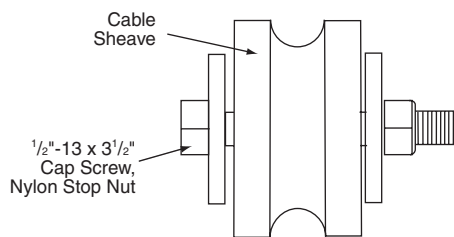

Figure 2
- ⑤ Install sheaves in milled slots in top post section using 1/2"-13 x 2" Cap Screws and Nylon Lock Nuts (see Fig. 2).